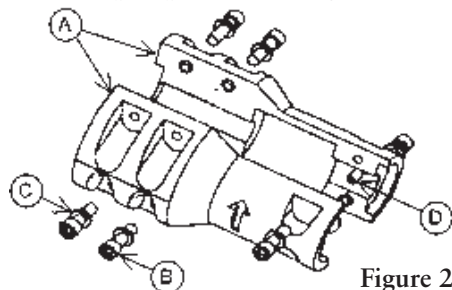

Figure 25: Motor Coupling
3. Remove the (2) coupling guards.
5. Disassemble the coupling by removing the (6) socket head screws. Remove the dowel pin on the pump shaft. See Figure 25. Retain bolts and dowel pin for reassembly.